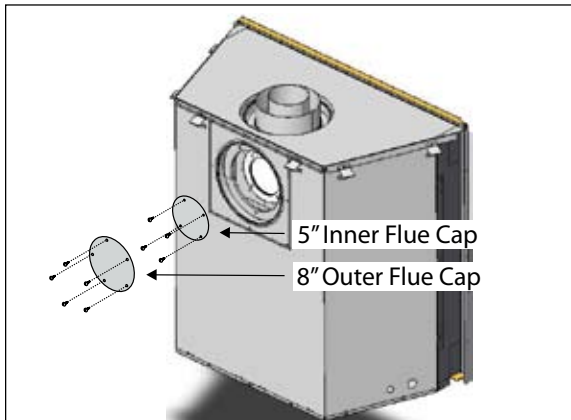

Figure 7a. Flue cap installation for Top Vented fireplace.
1. Install the 4" or 5" inner flue cap on the rear flue outlet and secure the cap in place with five screws, as shown in figure 7a.